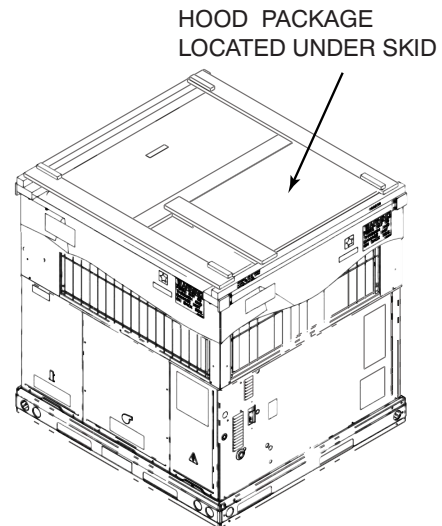

Fig. 9 - Hood Package Location
NOTE: See Table 5 and 6 to determine the disposable filters provided. See Fig. 9. for shipping location of Economizer Hood package.
3. Open economizer hood package found on the top skid. See Fig. 9.
6. Open economizer hood package found on the top skid. See Fig. 9. Mount OAT sensor to its assigned bracket by screwing together with provided two #8 fasteners. Afterwards install OAT sensor to the right side hood panel with the provided #10 screws. See Fig. 11.